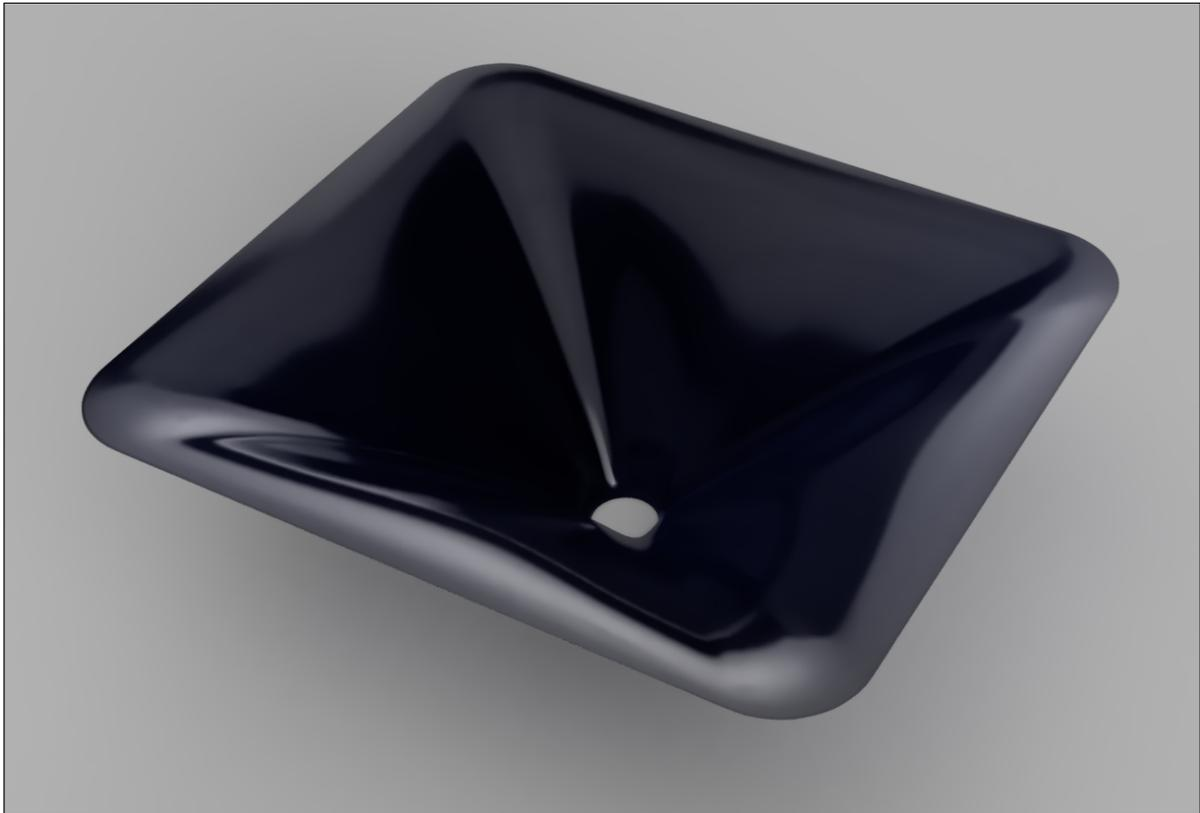

Fig 1: High-performance waveguide designed with Ath (Fusion 360 visualization)
*Guiding curve* is a virtual closed loop of wire that the horn surface goes through at some defined distance from the throat (see Fig.1).